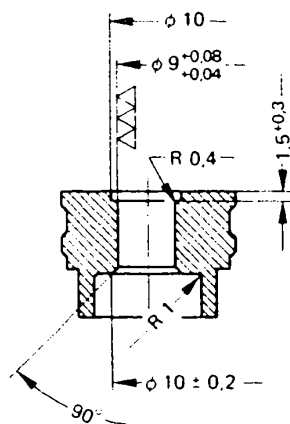

Fig. 2
3. Pinning of intermediate bearing (Fig. 2)
Basically, to modify an old solenoid switch from the old to the new design, all new service parts listed above (Items 176, 177, 178, 179, and 206) should be installed, and the 8-mm hole in the magnet core should be enlarged by drilling or reaming in accordance with Fig. 2. The countersinks on both sides of the core should then be machined in as shown by Fig. 2. Please check that the plunger shaft moves freely in the hole and does not bind.